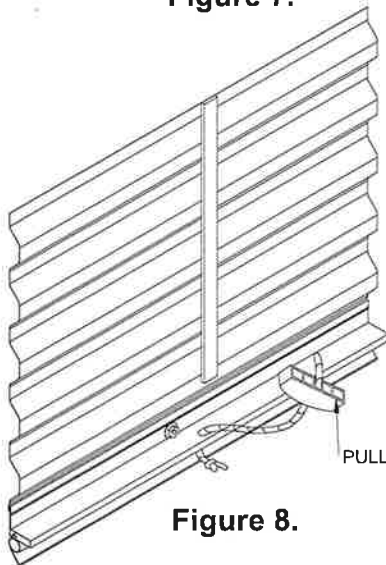

Figure 8.
9.1 Pull Rope Handle: Tie a knot in one end of the rope. Slide the plastic handle onto the rope and pull the knot up into the handle. Pass the other end of the rope through the hole in the center of the bottom edge of the door and tie another knot in the end to keep the rope from pulling through. See Figure 8.